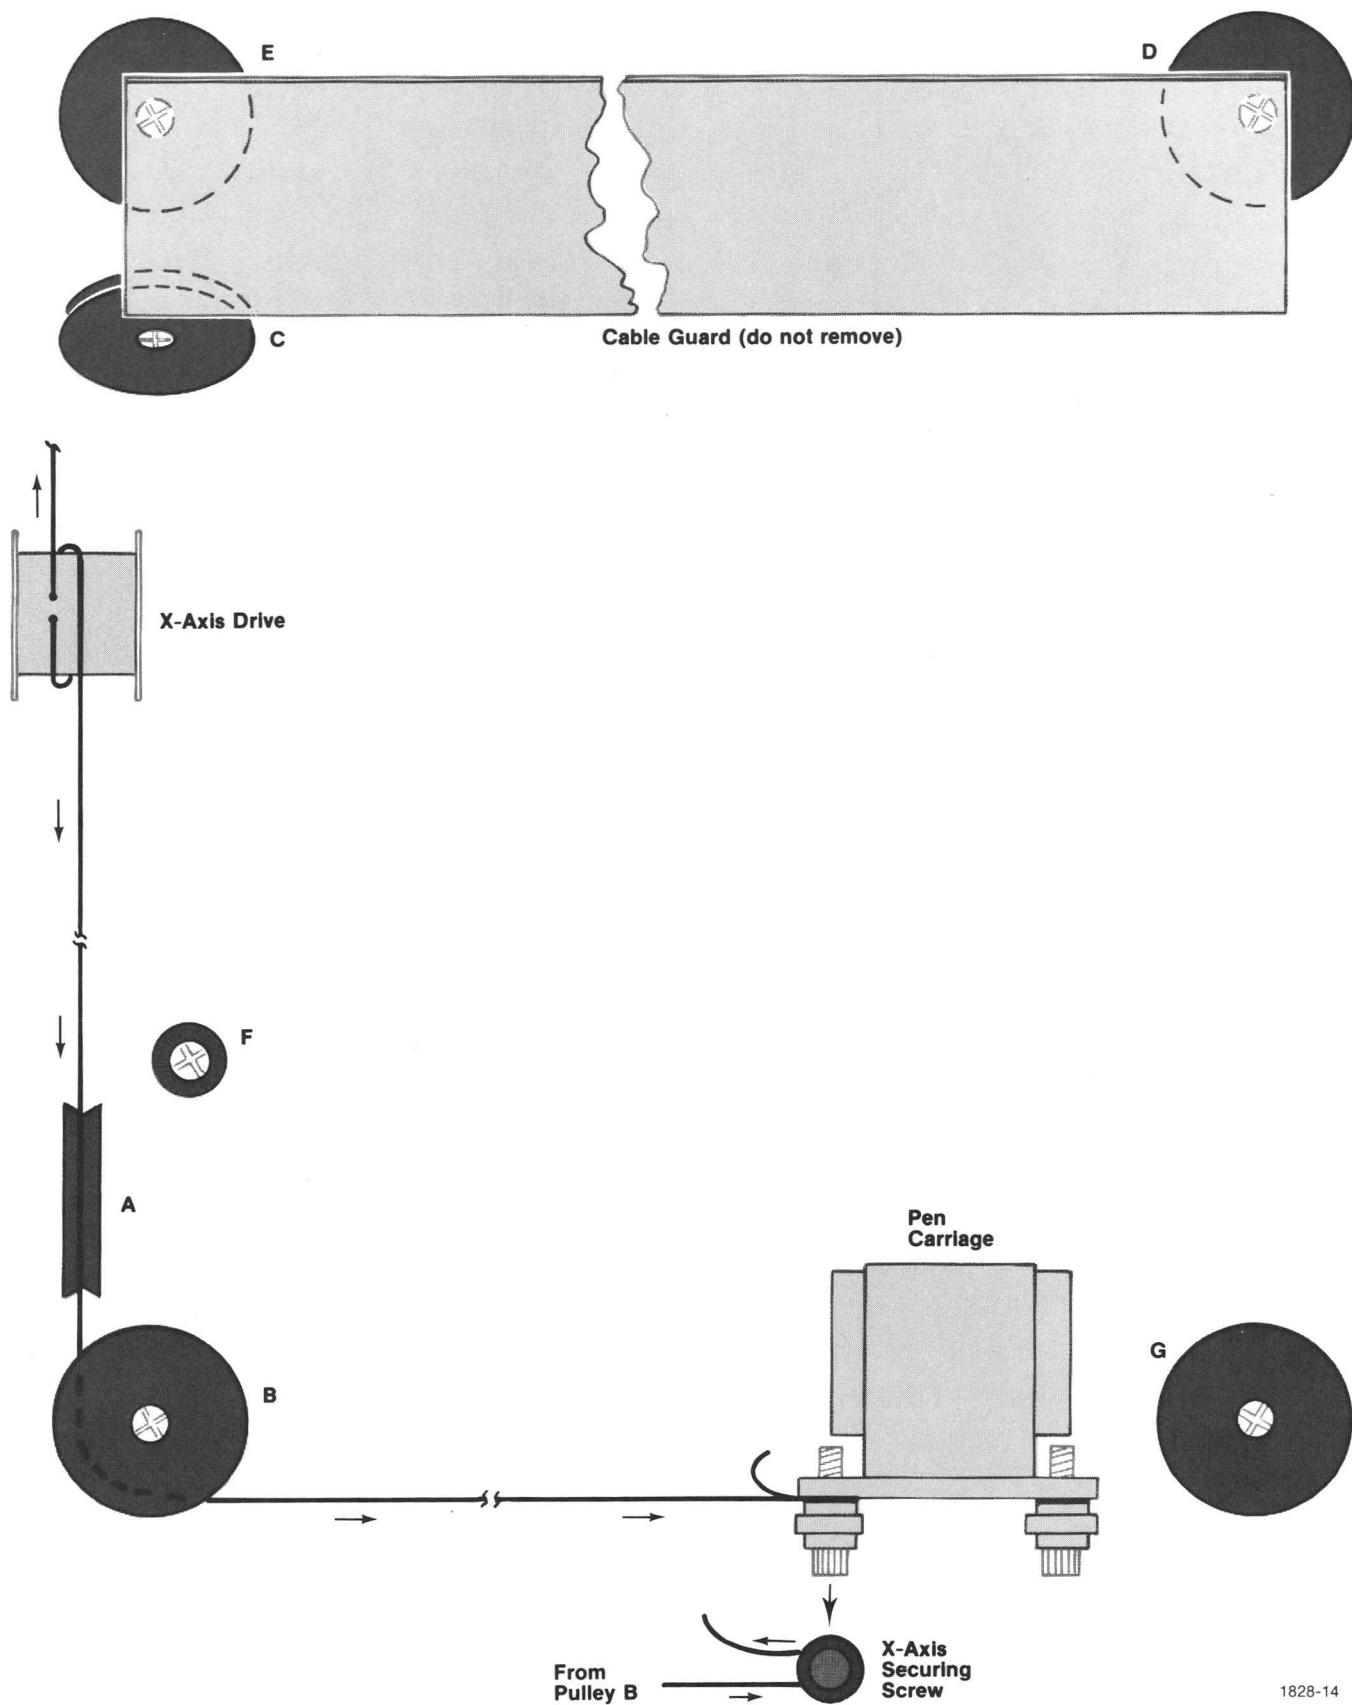

Fig. 3-14. X-Axis Cable Stringing—Part 1.
5. Refer to Fig. 3-14. Feed the same cable, from step 3, over pulley A, around the forward edge of pulley B, and fasten the cable with the securing screw on the left-front side of the pen carriage; leave no slack and do not allow the X axis drive pulley to rotate from its initial position established in step 2. Check to be sure the drive cable lies in the grooves of the appropriate pulleys.